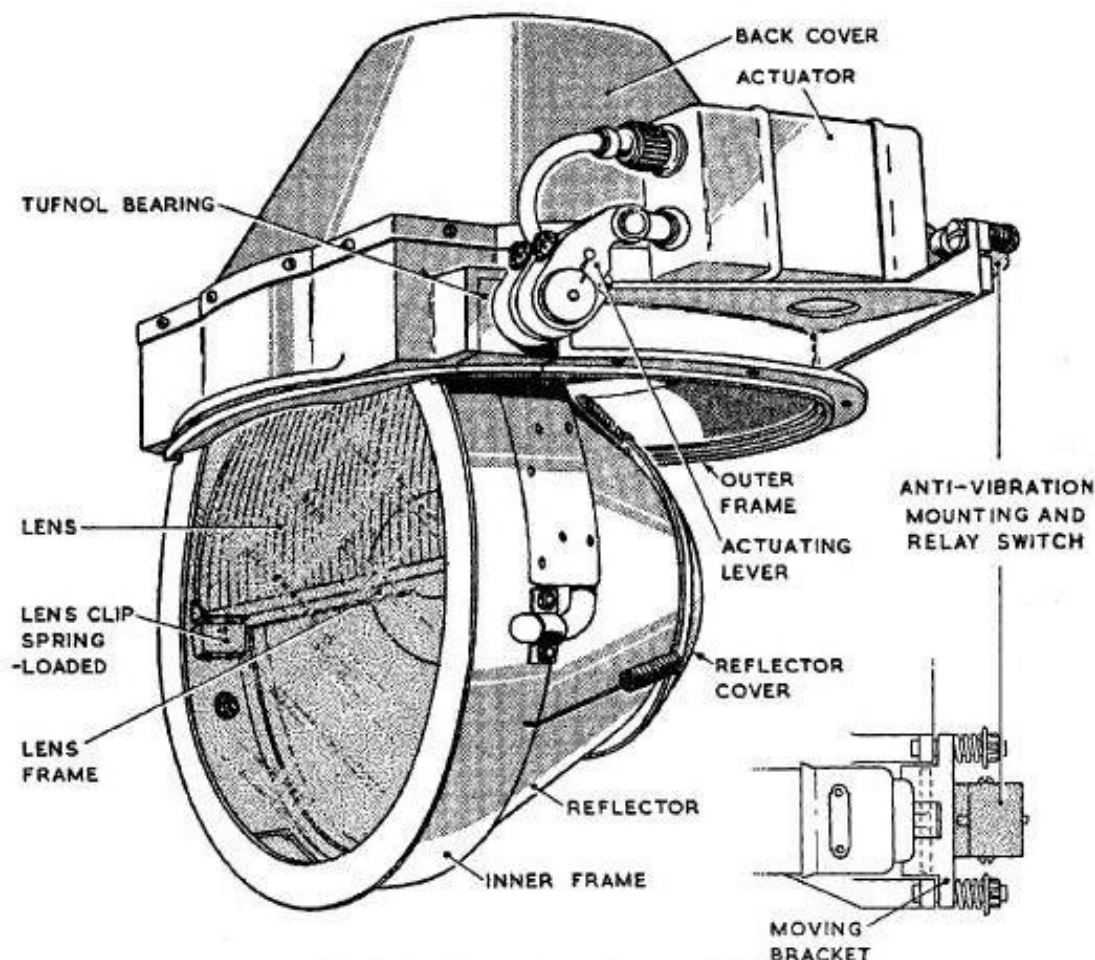

Fig. 1. Landing lamp, Harley Type II KD
2. The lamp consists (fig. 1) of three main castings, viz., the outer frame casting which takes the weight of the lamp in the aircraft; the inner frame casting or filament housing which is retractable, and the lens frame casting which carries the lens and bulb holder and locates the reflector.